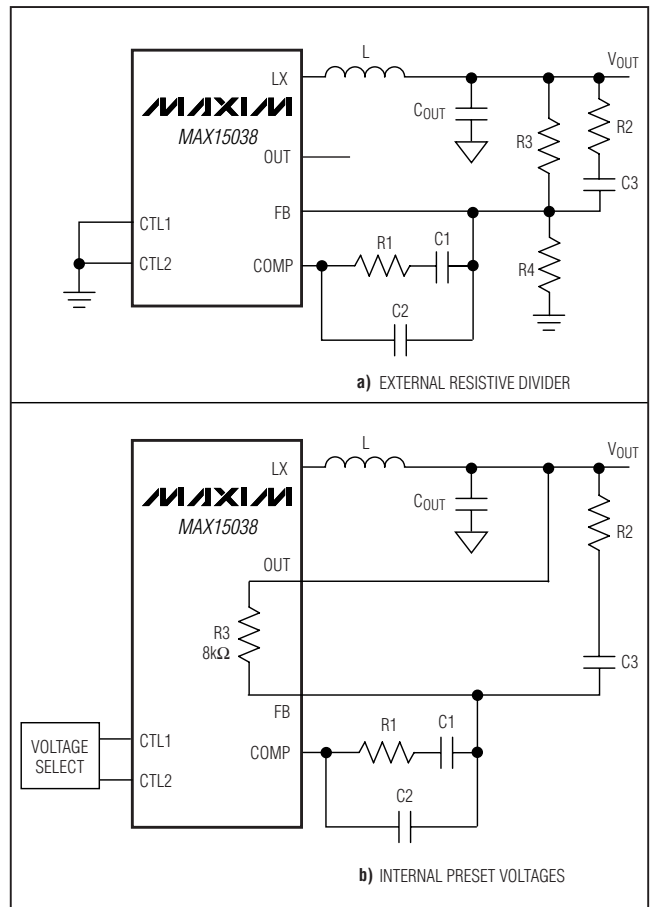

Figure 3. Type III Compensation Network
The high switching frequency range of the MAX15038 allows the use of ceramic output capacitors. Since the ESR of ceramic capacitors is typically very low, the frequency of the associated transfer function zero is higher than the unity-gain crossover frequency,  $f_C$ , and the zero cannot be used to compensate for the double pole created by the output filtering inductor and capacitor. The double pole produces a gain drop of 40dB/decade and a phase shift of 180°. The compensation network error amplifier must compensate for this gain drop and phase shift to achieve a stable high-bandwidth closed-loop system. Therefore, use type III compensation as shown in Figures 3 and 4. Type III compensation possesses three poles and two zeros with the first pole,  $f_{P1\_EA}$ , located at zero frequency (DC). Locations of other poles and zeros of the type III compensation are given by: